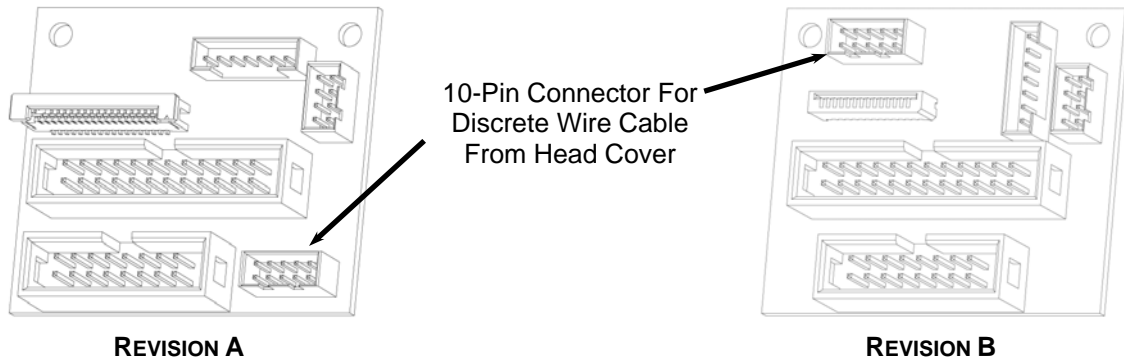

FIGURE 7: LOCATION OF CONNECTOR FOR HEAD COVER CABLE FOR THE EARLIER REVISION A AND LATER REVISION B MACHINES
- Unplug the head cover cable at the head connector board attached just to the left of the Y-drive motor pack.** The location of this connector on the connector board will vary depending on the machine's production date (See Figure 7). You may have to reach underneath the head to unplug the cable. Notice how the cable is routed alongside and under the Y-truck motor pack. This routing is important to remember when re-assembling the cover.